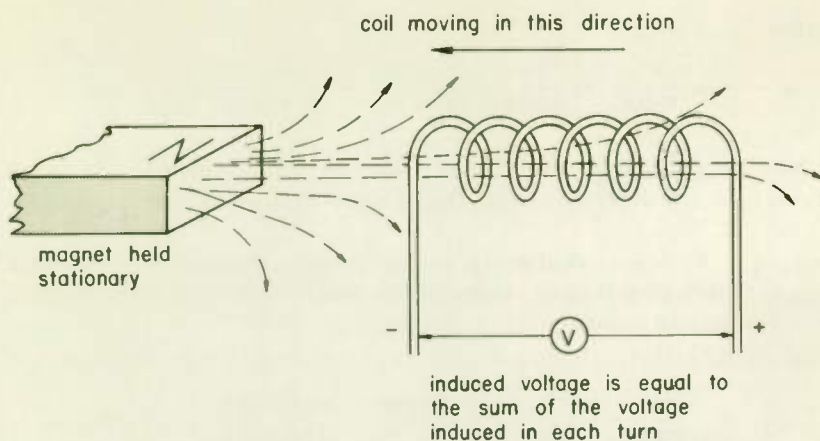
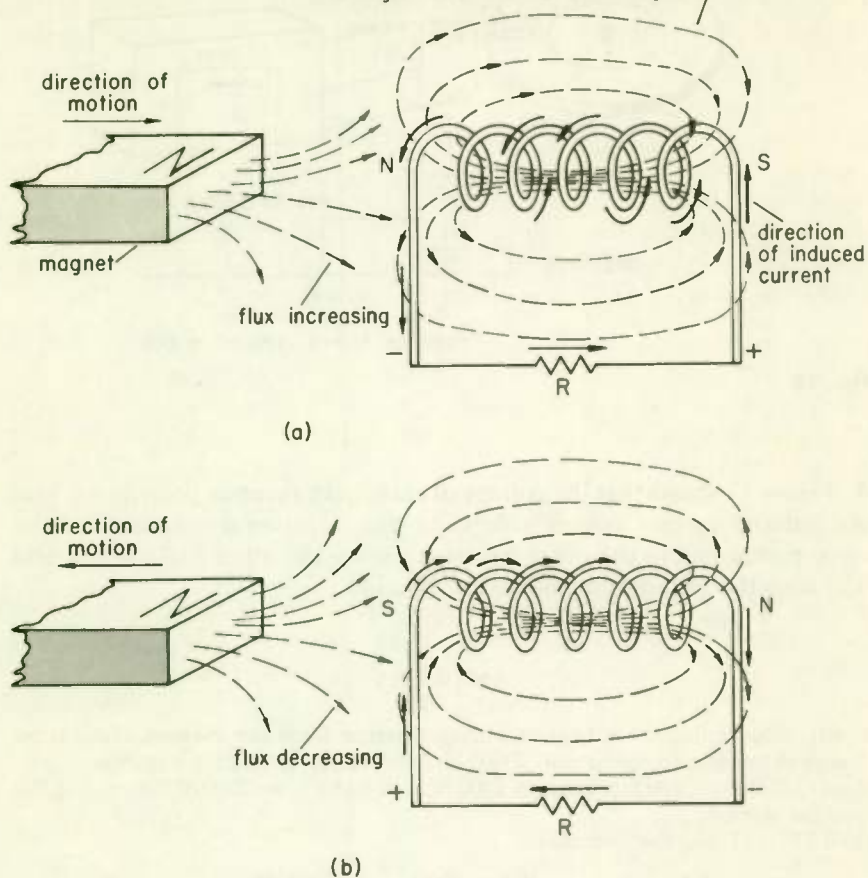

Fig. 17 A higher voltage is induced in a coil if more turns are added; it is equal to the voltage induced in each turn multiplied by the number of turns.
Fig. 19 Changing the flux through a coil induces a current in the coil in such a direction as to oppose the action that induced it.
Now let's consider another factor that determines the magnitude of the voltage induced in a coil of wire by a changing magnetic field. Figure 17 shows a coil made up of several turns of wire moving into a magnetic field. The voltage induced in each turn of wire is proportional to the rate of change of flux through that turn. Since there are several turns in series, the voltages of the individual turns add, thus producing a voltage across the entire coil that is equal to the sum of the individual voltages.
8 **LENZ'S LAW AND DIRECTION OF INDUCED CURRENT...** The direction of induced current is determined by *Lenz's law*, also called the *law of induced current*, which states that the *direction of an induced current is always such as to oppose the action that produced the induced current*. In Fig. 19(a) the action that induces the current is the magnet moving toward the coil. The direction of the induced current must be such as to set up a force that opposes the magnet being moved toward the coil—a force that tries to push the magnet away from the coil.
up lines of force and becomes an electromagnet. Thus the current induced in the coil in Fig. 19(a) makes the coil an electromagnet. By Lenz's law the north pole of this electromagnet will be to the left so that it repels the bar magnet north pole being brought toward it. (Remember that like poles repel.)
The induced current direction is such as to magnetize the coil so that it opposes the motion of the bar magnet. In Fig. 19(a) the current direction must make a north pole at the left end of the coil. To find that direction, use the left-hand rule. Hold the coil with your left hand so that your thumb points to the left (that is, toward the north pole of the coil). Then your fingers will point in the direction of current flow.
In Fig. 19(b) the magnet is being pulled away from the coil. Now the direction of induced current is such as to set up an action trying to pull the magnet back toward the coil. The left end of the magnet now becomes a south pole so as to attract the north pole being pulled away. Knowing that the north pole of the coil must be to the right, the left-hand rule can be used as before to find the current direction.
Figure 19(a) shows two magnetic fields opposing each other, the field of the magnet and the field produced by the coil current. The figure implies that these two flux sets flow in opposite directions within the coil. But it is impossible to have intermixed flux lines that are in opposite directions. What happens is that the lines of force from the magnet, being the stronger, overcome the flux of the coil, so that there is in fact only one field, the field of the magnet as shown in Fig. 17. The effect of the lines of force that the coil is trying to set up in opposition to the field of the magnet is to weaken the field of the magnet.
Thus the strength of the flux through the coil is less than it would be if it were not for the bucking action of the flux that the current through the coil is trying to set up. If R in Fig. 19(a) were increased so that the induced current would be less, then the flux threading the coil would be greater. Also, since the lower current could not set up such a strong opposition action, the magnet could be moved toward the coil easier than when R was of lower value.
In Fig. 19(b), where the two flux sets are aiding each other, the flux through the coil is higher than it would be if there were not current flow in the coil. If R were changed to a lower value, the increased induced current would further increase the flux through the coil.
2. Suppose in Fig. 19(a) that the bar magnet is held stationary and the coil is moved toward the magnet. The current direction through R will be (*toward the right*) (*toward the left*).